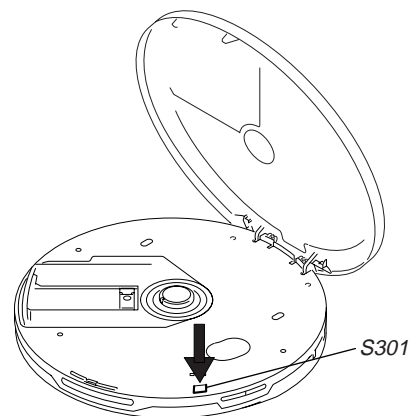

Fig. 1 Method to push the S301
2. With a disc not set, turn on the S301 with a screwdriver having a thin tip as shown in Fig.1.